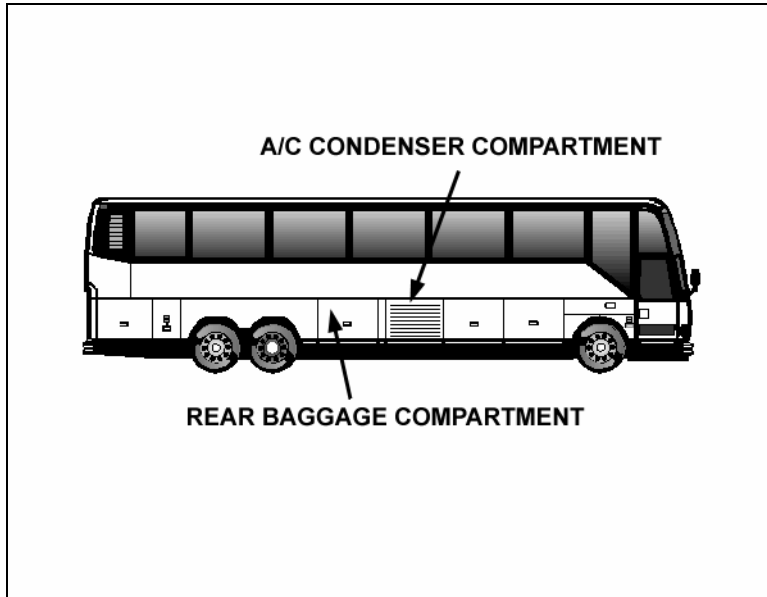

FIGURE 1: REAR BAGGAGE COMPARTMENT
1. In rear baggage compartment (refer to fig. 1), cut locking ties and move cables out of the way if necessary.